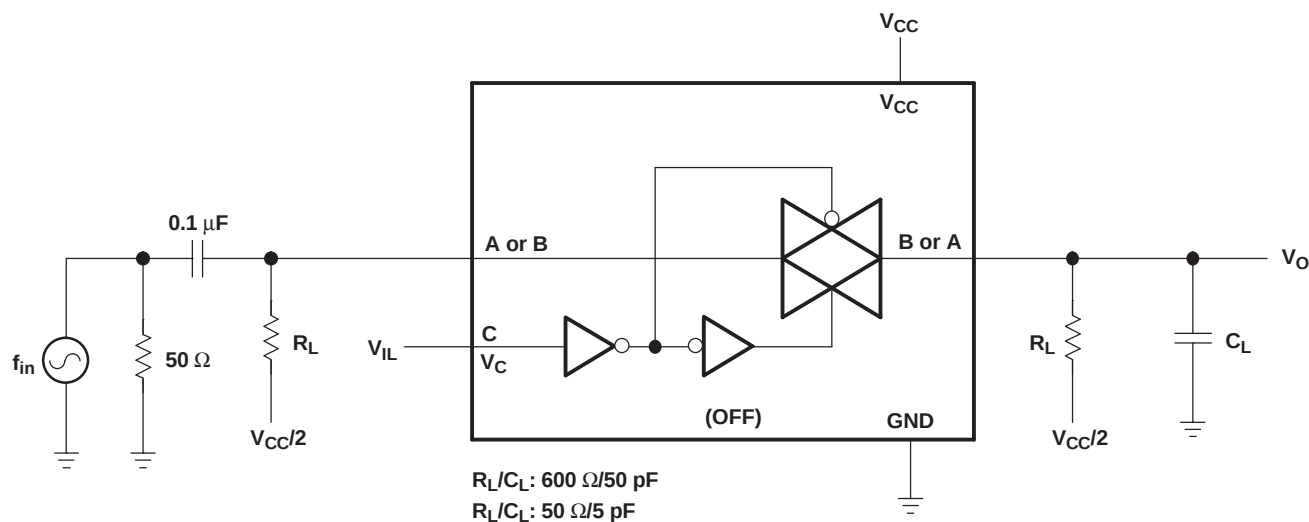

Figure 7. Feedthrough (Switch OFF)
| Feedthrough attenuation (2)(switch OFF) | A or B          | B or A         | $C_L = 50\text{ pF}$ , $R_L = 600\ \Omega$ ,$f_{in} = 1\text{ MHz}$ (sine wave)(see Figure 7)        | 0.8 V    | –60  | dB   |
|                                                        |                 |                | $C_L = 5\text{ pF}$ , $R_L = 50\ \Omega$ ,$f_{in} = 1\text{ MHz}$ (sine wave)(see Figure 7)          | 0.8 V    | –55  |      |